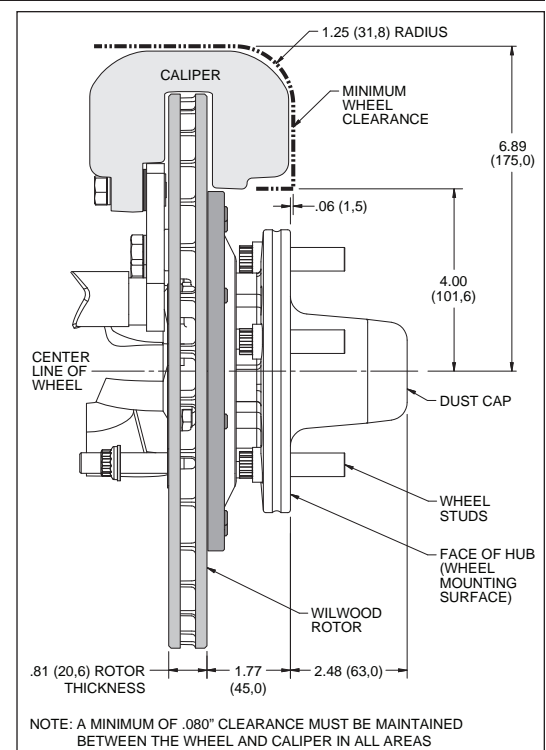

Figure 2. Wheel Clearance Diagram
- Verify wheel clearance utilizing Figure 2.
- **WARNING:** The wheel contact surfaces must seat completely on the face of the hub. If any contact surfaces overhang the outside diameter of the hub face, a 6.60" diameter x .20" thick steel spacer (item 25, Wilwood P/N 300-11961) MUST be used between the wheel and the hub.